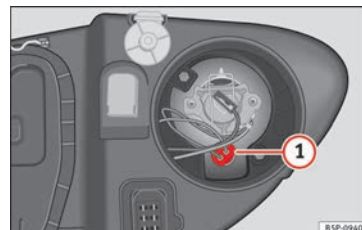

Fig. 183 Side light.
- Extract the bulb holder »» **Fig. 183 ①** outwards.